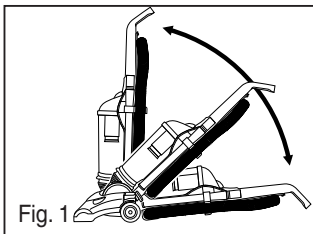

Fig. 1
- 1) Use handle release to lower handle flat onto floor (Fig. 1).
- 1) Loosen lower end of hose and pull hose retainer out to remove hose. Flex hose to loosen any blockage. If still clogged, remove 2 screws and remove hose from vacuum back (Fig. 1). Reconnect hose at both ends.